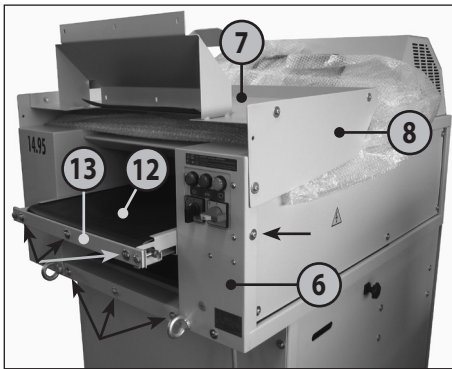

fig. 1
- 6 = **Housing** (fig. 1, 2, 4)
- 7 = **Table** (fig. 1, 2, 4, 5, 6)
- 8 = **Guard panel** (fig. 1, 2, 4)
- 12 = **Conveyer belt** (fig. 1, 2)
- 13 = **Conveyor belt retainer** (fig. 1)
POSITIONING OF THE TABLE (7) (figs. 1, 2 and 3):
1. Unscrew each of the 3 screws with washers on the front wall of the housing (6) and on the front of the conveyor belt attachment (13) as well as the one screw on both sides under the protective plate (8) (see arrow markings fig. 1).